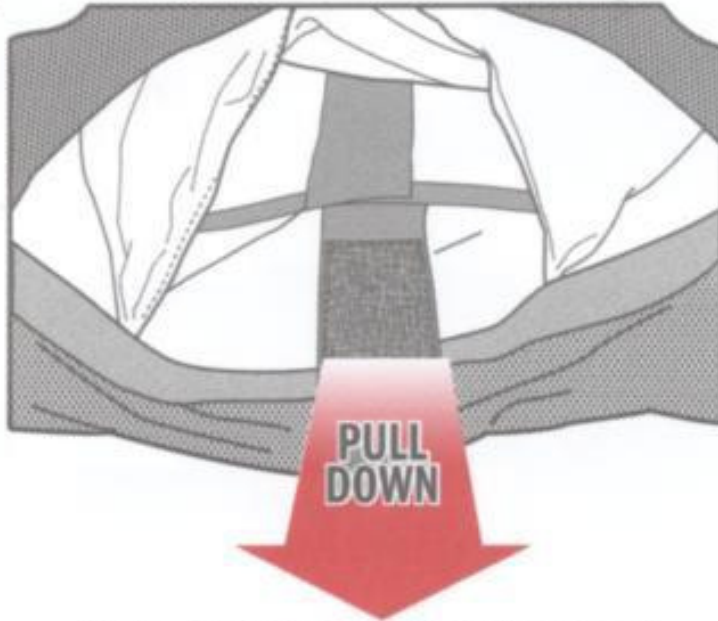

Fig. 5. Ballistic Plate Pocket exposed.
2. Separate seam to open insert pocket and lift soft armor insert by pulling strap as shown in Fig. 5.